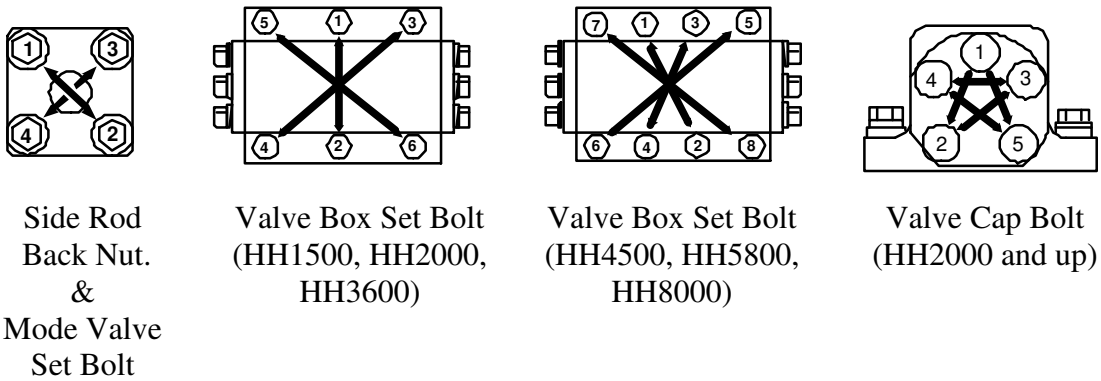

Figure 5. Tightening Sequence
- f. Torque bolts to proper specifications and sequence shown on Table 4 and figure 5 on page 14.